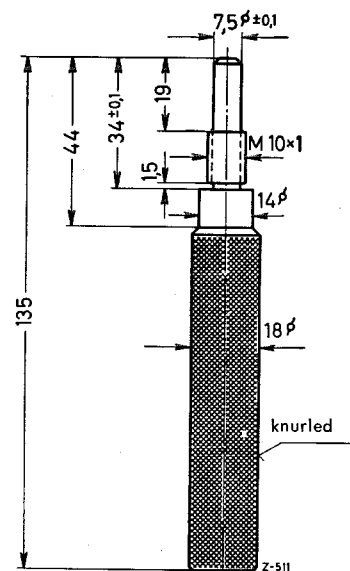

Fig. 35 — 4/7 b
- b) Bring the right axle tube to the stop and screw in Assembly Bolt 121 589 02 63 in place of the conical plug (10) (Fig. 35 — 4/7 b).
Note: The assembly bolt can be made in the workshop according to the dimensions given in Fig. 35 — 4/7 b.